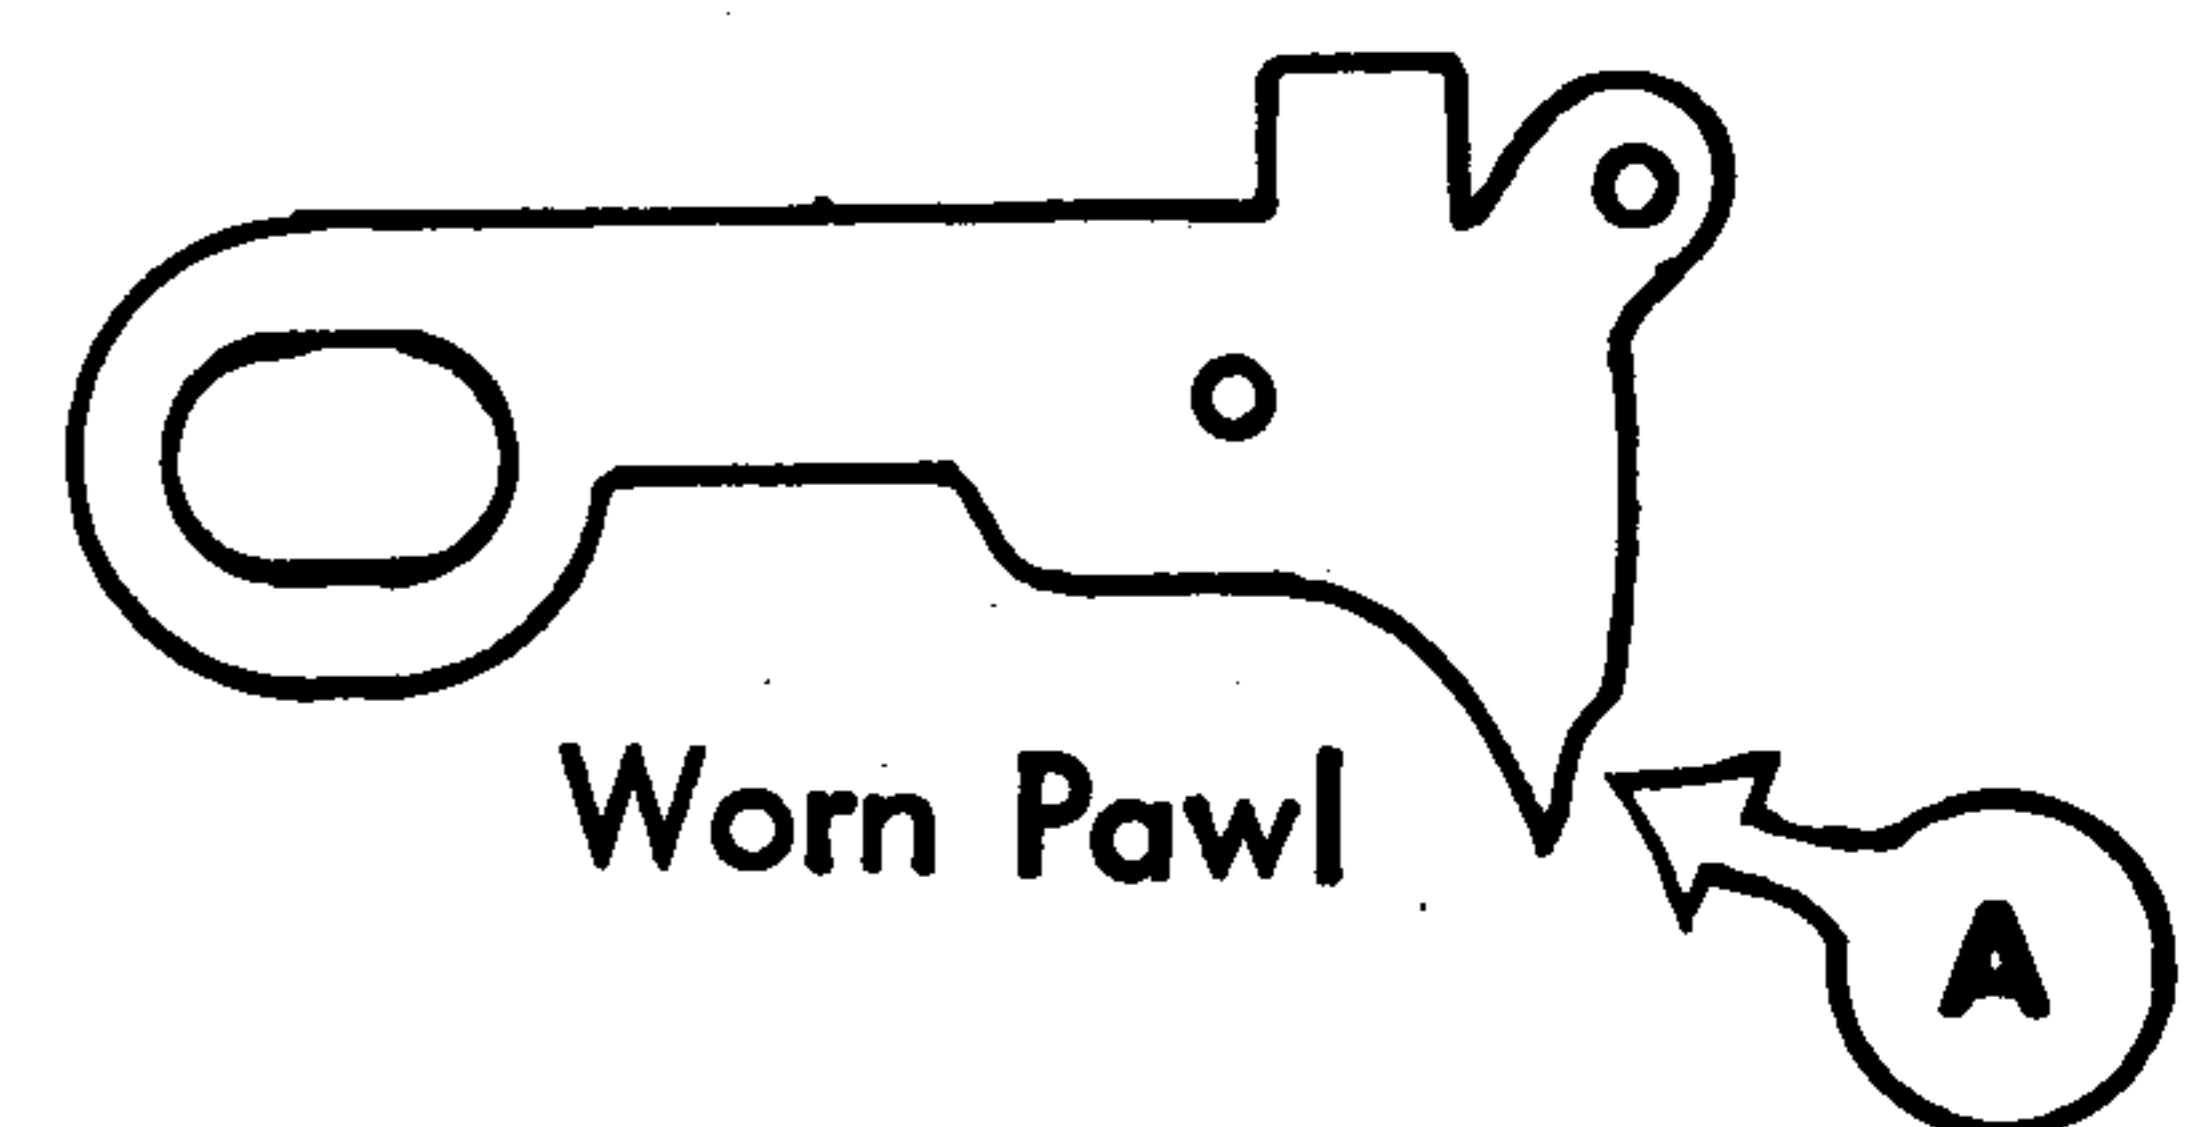

FIG. 3.1
- 1.8 Backspace may go a full space but a worn escapement pawl will cause the carrier to skip ahead 1/2 space. See Fig. 3.1. Look for this condition under powered operation. To prevent a reoccurrence, replace the escapement pawl AND rack.
- c. A worn Escapement Pawl. (Fig. 3.1)